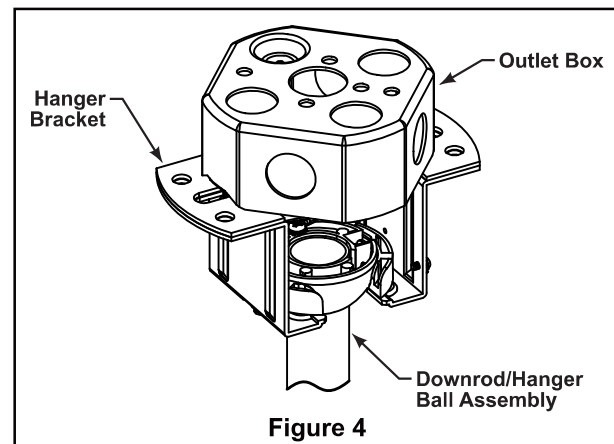

Figure 4
- Carefully lift the fan and seat the downrod/hanger ball assembly onto the hanger bracket that was just attached to the outlet box. Be sure the groove in the ball is lined up with tab on the hanger bracket. (Figure 4) This fan is intended for standard and angled mounting options only. Closemount and flushmount options are not available. For angled ceilings, note the angle can be no more than 20°.